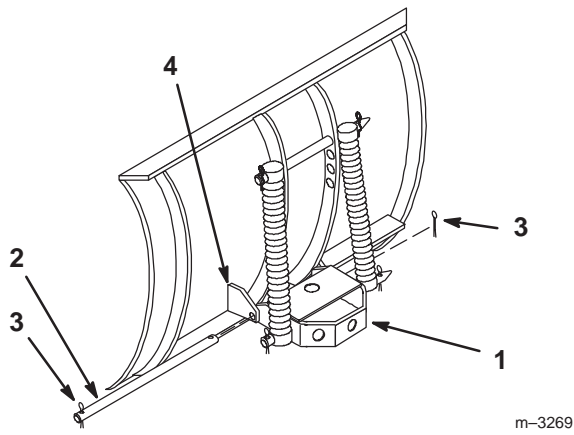

Figure 1
1. Lift and rotate the channel assembly so its holes align with the lower blade mounts. Slide the rod through the holes and secure it with two 1 in. (26 mm) cotter pins (Fig. 1). Bend the ends of the cotter pins to secure the rod.